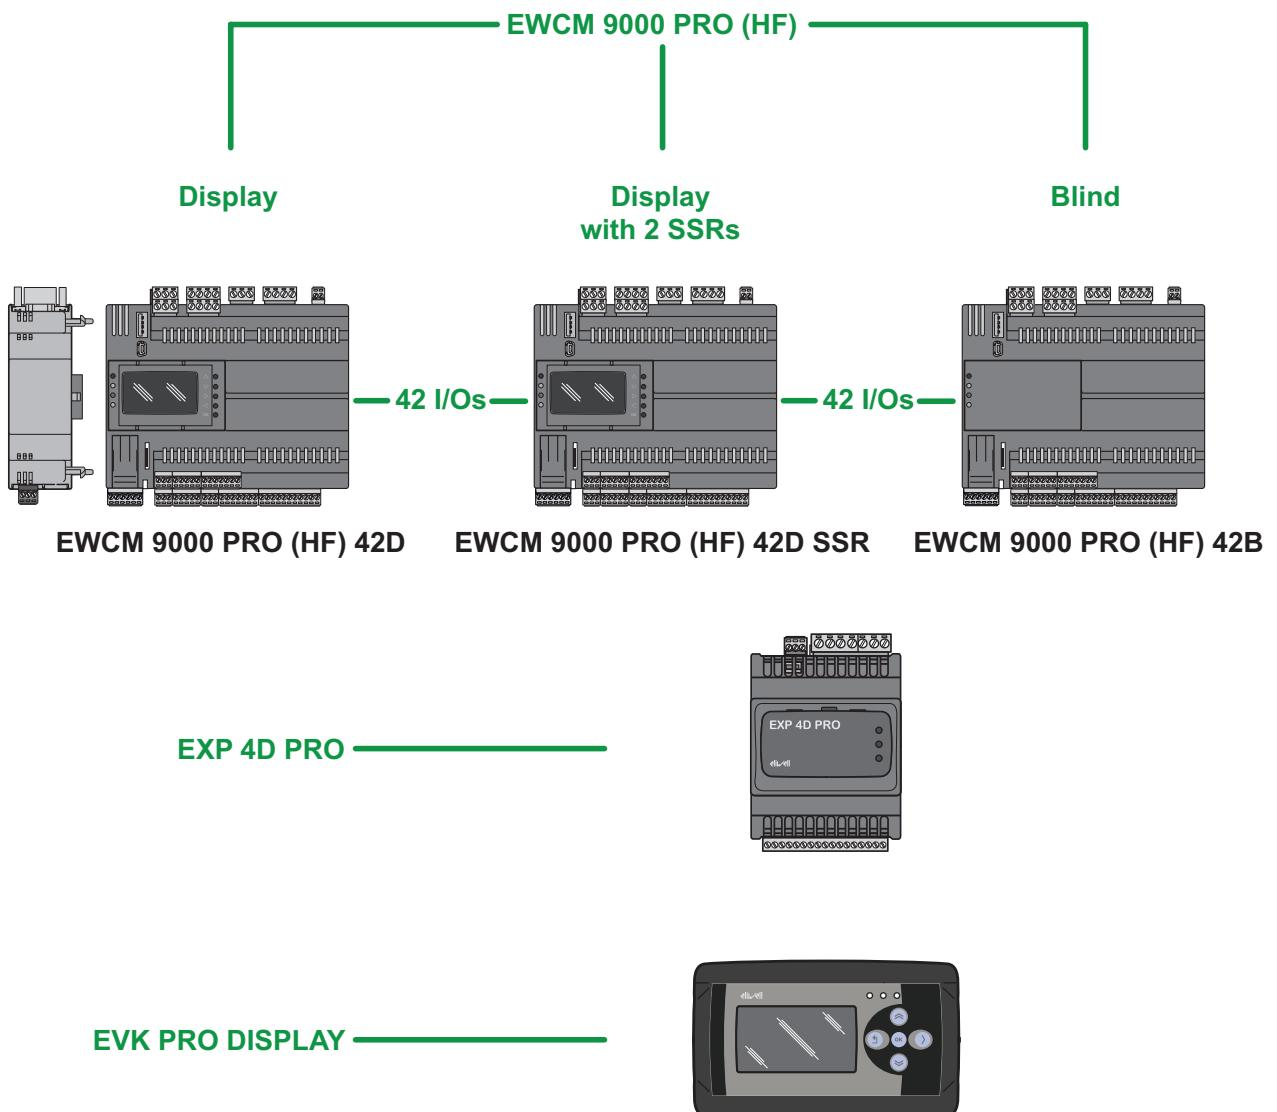

Fig. 1. EWCM 9000 PRO range
The **EWCM 9000 PRO (HF)** range (see Fig. 1 on page 15) comprises: